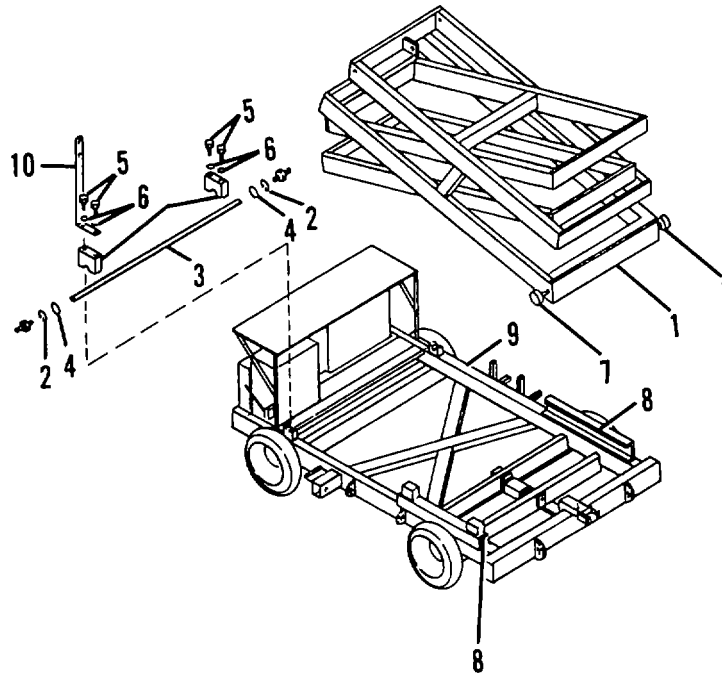

Figure 4-39.1. Scissors Mounting.
- (a) Use hoist and carefully place scissors assembly (1, Figure 4-39.1) in position at the front of the tracks.